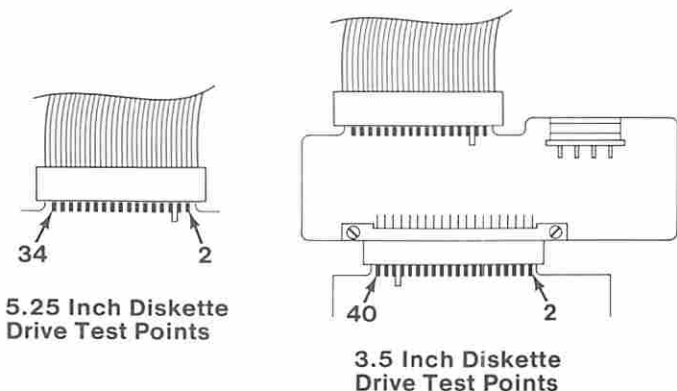

Figure 7. Voltage Check
- Power on the system and monitor the voltage at pin 28 on the failing diskette drive circuit board during the POST (Figure 7).